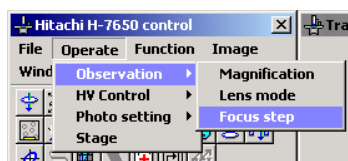
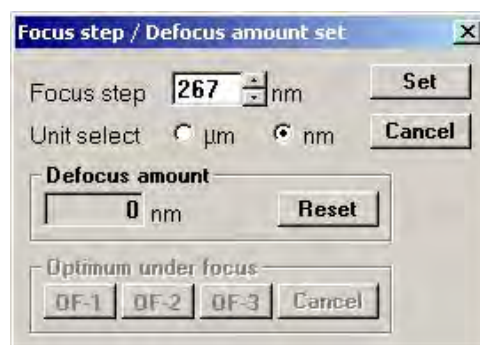
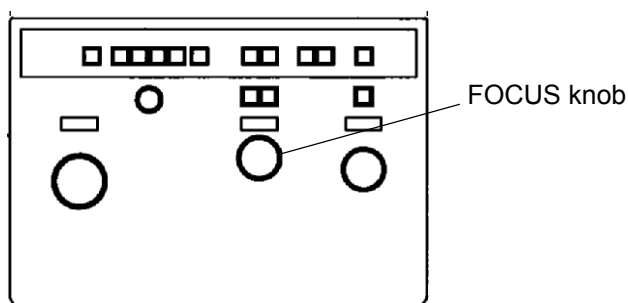

Fig. 3-42 Focus step Menu
Fig. 3-43 Focus step/Defocus amount set Window
Fig. 3-44 Right Operation Panel
(3) Focus step
- (a) Clicking Focus step in the Operate menu shown in Fig. 3-42 will open the Focus step/Defocus amount set window in Fig. 3-43. In this window, a shift of focal point due to one step of the FOCUS knob (Fig. 3-44) is displayed. This shift is automatically set for the selected magnification. It is also possible to set a desired focus step value and defocus amount display function.
Whenever turning the FOCUS knob on the right operation panel shown in Fig. 3-44, the corresponding defocus amount is displayed. When you want to know the defocus amount with reference to the present in-focus status, reduce the indication of defocus amount to 0 nm by pressing the Reset button. After that, change the focus by the FOCUS knob (Fig. 3-44), and a defocus amount will be displayed. In defocus amount display, a sign “+” indicates underfocus and “-” stands for overfocus.